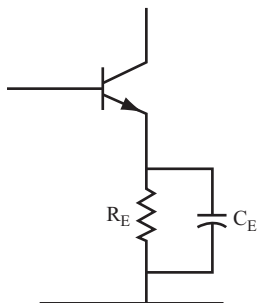

FIGURE 8.18
You can make an amplifier with stable bias points without giving up high AC voltage gain by placing a capacitor in parallel with the emitter resistor, as shown in Figure 8.18.
**20** You can use the circuit shown in Figure 8.18 when you need as much AC voltage gain as possible. When high AC voltage gain is your priority, predicting the actual amount of gain is usually not important, so the fact that the equation is inexact is unimportant. If you need an accurate amount of gain, then you must use a different type of amplifier circuit that produces lower amounts of gain.